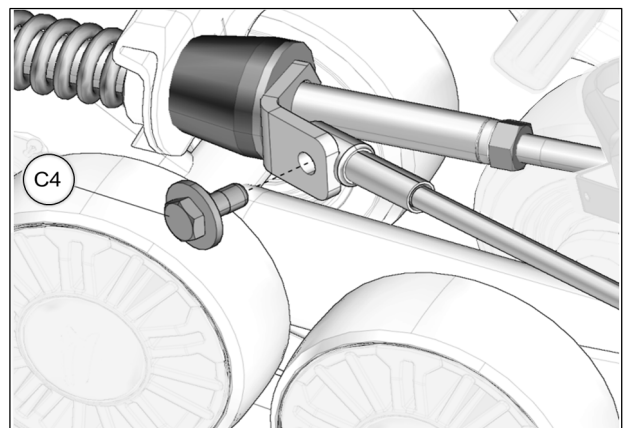

Fig. 25
15. Reverse steering wheel a little to be able to bolt support plate and cable together. Tighten provided bolt (C4) to 35 N•m [24 lb•ft]. See Fig. 25. Repeat steps on right side.